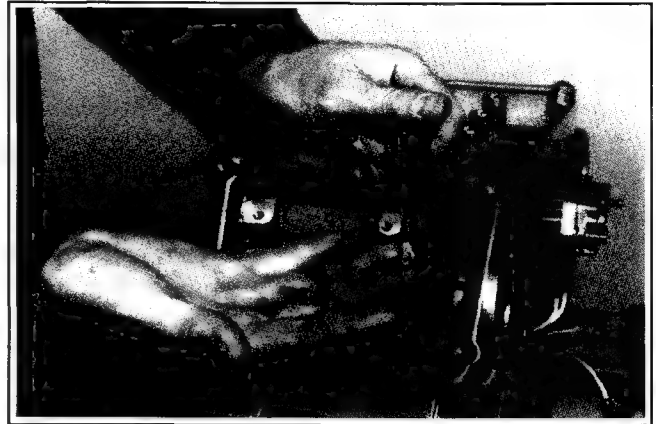

Figure 9-32. Removing Governor Yoke and Cross Shaft.
1. Remove the two hex. socket head screws from the governor yoke. See Figure 9-32.
2. Remove the governor cross shaft. See Figure 9-32.